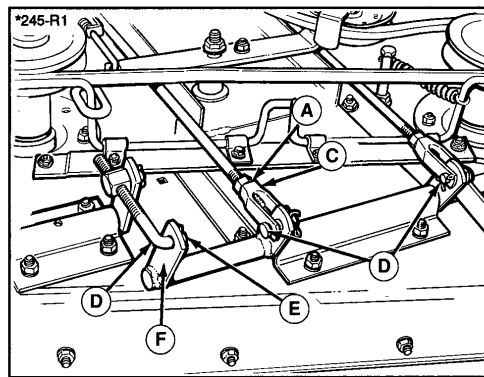

Figure 47. Levelling Mower
5. Remove the cotter pin (E, figure 47) which secures the mower levelling rod (D). Shorten the rod (D) to raise the left side of the mower or lengthen the rod to lower the left side of the mower. Put the levelling rod back in its hole and recheck the measurements. If the mower is level, install the cotter pin (E).